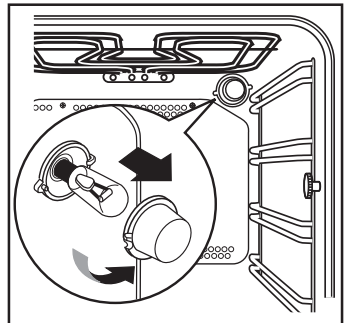

Fig. 15
2. Turn the glass cover anticlockwise (Fig. 15).